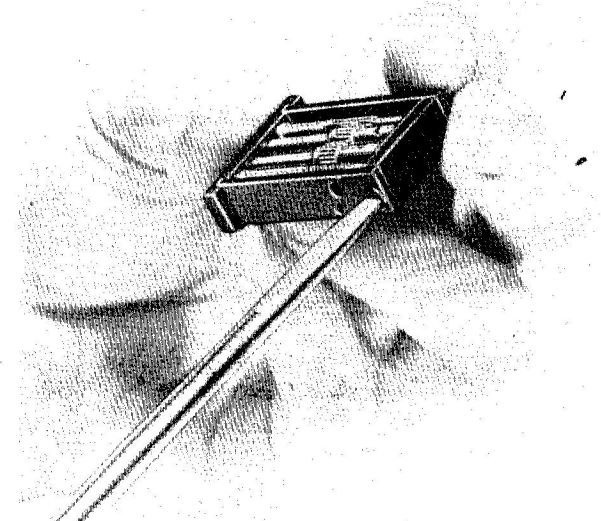

Figure 24 — Remove Compensator Screws
(1) Unless the gears will not turn or are dirty, parts are damaged, or magnets need remagnetizing, the disassembly of the compensator should not be necessary.
(2) Remove the two assembly screws (figure 24) and remove all the long shafts.
(3) Spring the frame out slightly and remove the short shafts.